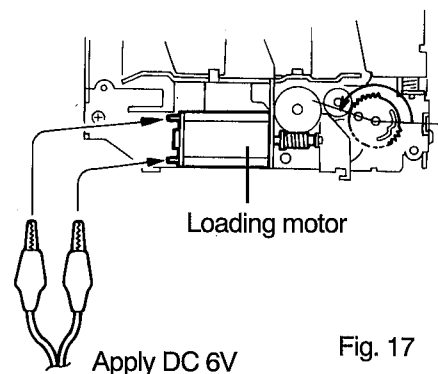

Fig. 17
8. After the installation, apply DC6V to the lead wires of the loading motor assembly to locate the load gear assembly as shown in Fig. 17.